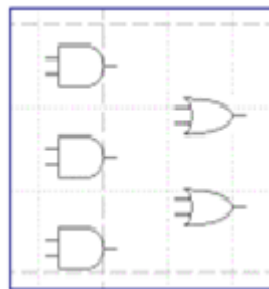

Figure 10-4
- Move the mouse pointer to the *Design Window* and place two of these gates to the right of the AND gates. See Figure 10-4